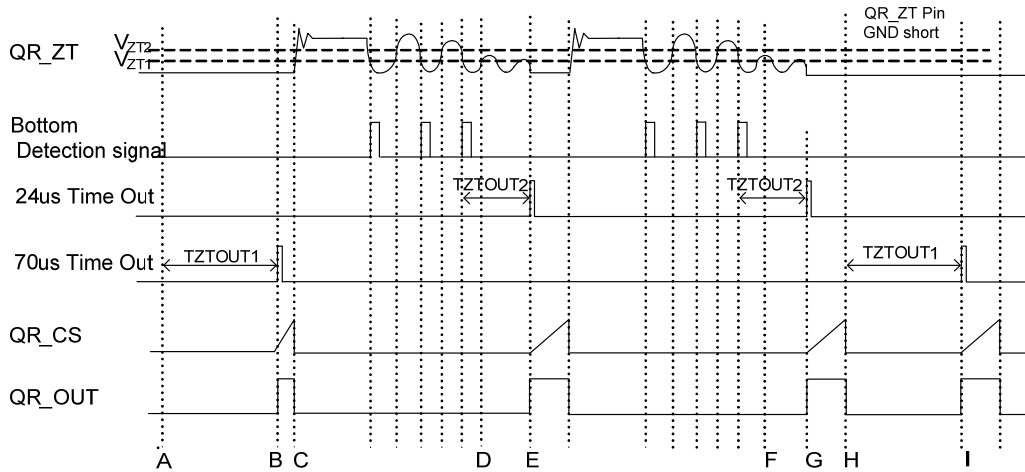

Figure 16. The Function of ZT Time Out.
**(6-5) ZT Timeout Function (Figure 16)**
When QR\_ZT pin voltage is not higher than  $V_{ZT2}$ (typ=200mV) for  $T_{ZTOUT1}$  such as start or low output voltage, or QR\_ZT pin shorts to GND, IC turns on MOSFET by force. (Figure 16)